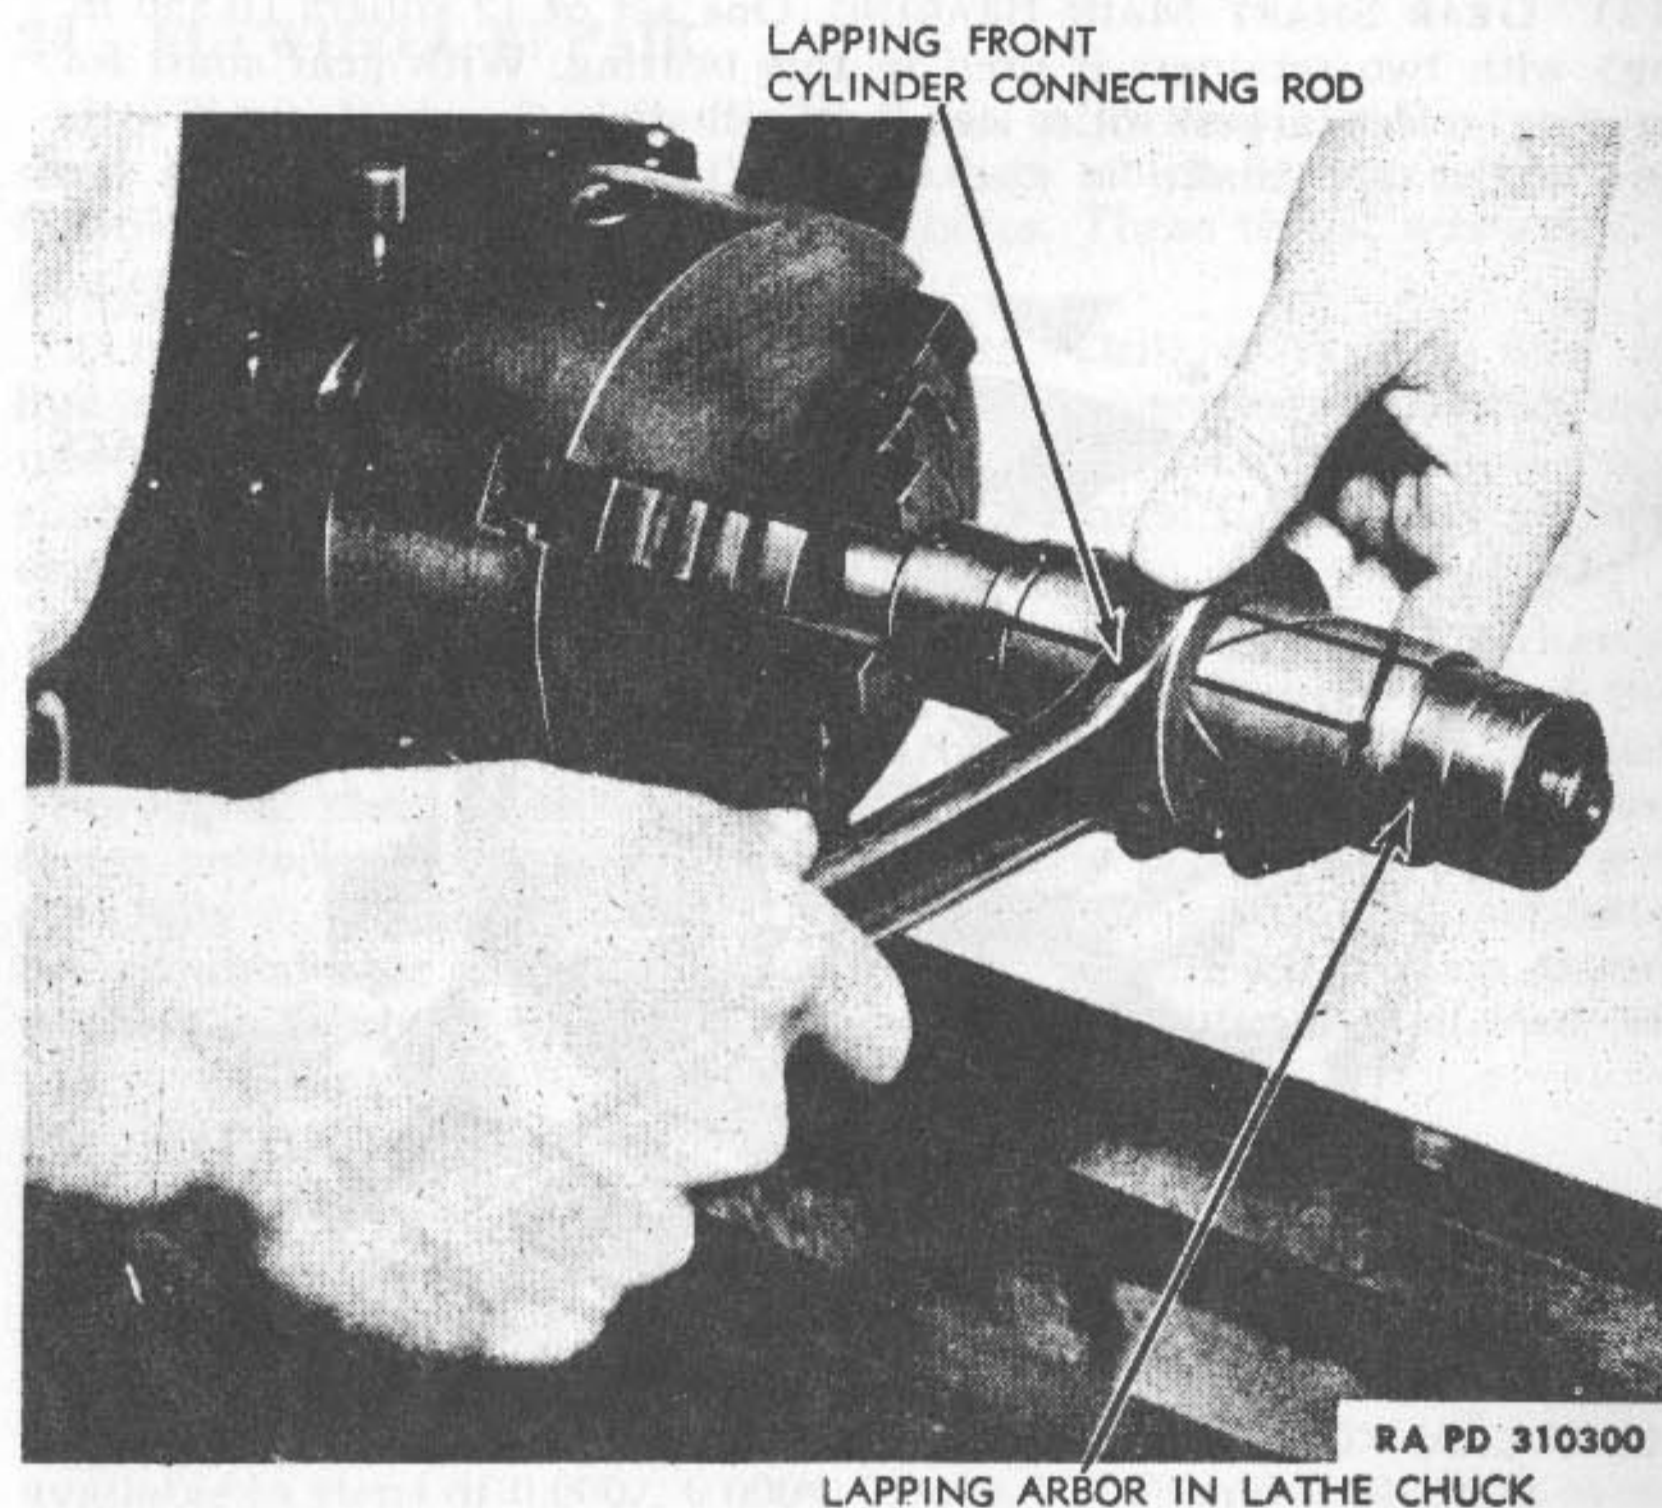

Figure 37—Lapping Connecting Rod Roller Race with Lapping Arbor (41-A-337-10)
(1) **LAPPING WORN CONNECTING ROD ROLLER BEARING RACES** (fig. 37). When lapping a set of worn rods, lap until no trace of wear shoulder is left at sides of roller path; also lap both rods (front and rear) to fit same size rollers. When rod roller races are damaged or worn beyond truing up and refitting with largest oversize rollers, rods must be replaced with new rods or rods rebushed and reconditioned.